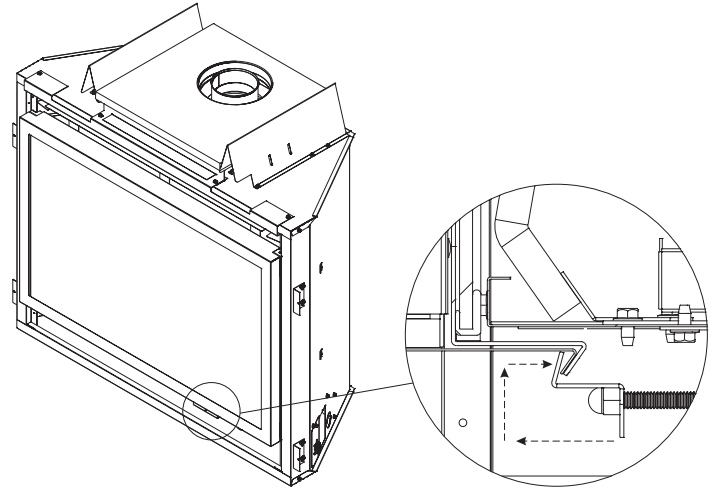

Figure 98
4. Engage the two glass latches over the barrier screen and glass frames as shown in Figure 98.